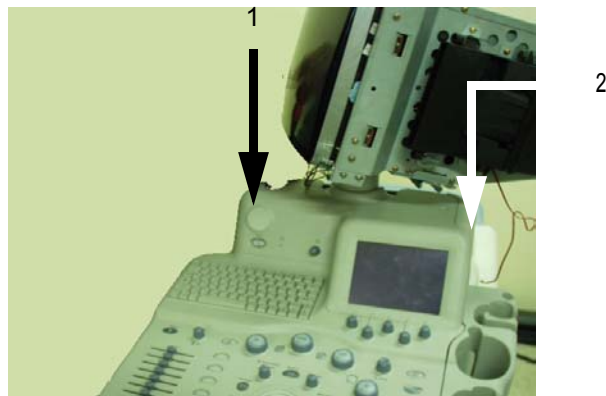

Figure 8-18 Unscrew two screws on the shoulder
- 2.) Unscrew two screws (1-2) from the upper side of the keyboard. Refer to Figure 8-18 on page 8-14 .